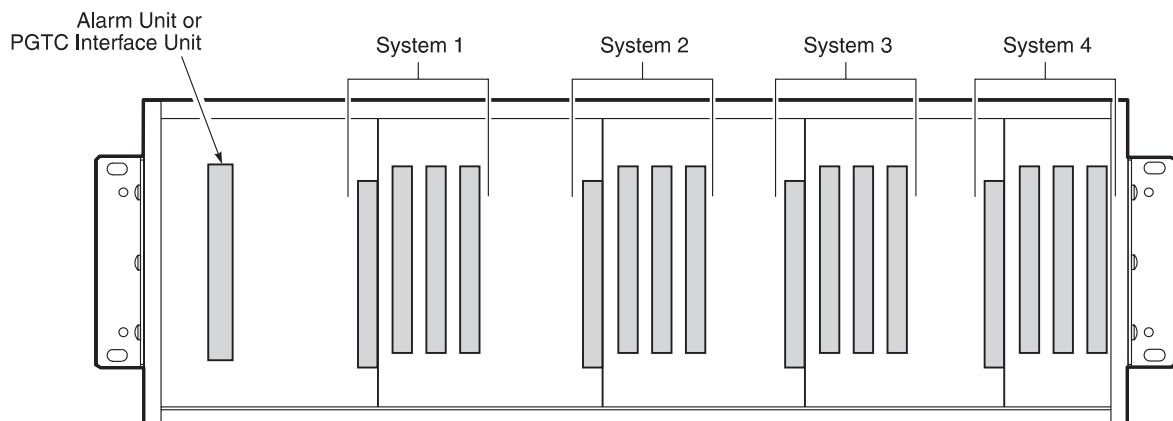

Figure 1. FCS-719 COT Shelf
1.1 The PairGain® PG-Flex™ FCS-719 List 4 23-inch Central Office Terminal (COT) Shelf (Figure 1) supports:
4.2 Table 3 lists the FCS-719 connectors (Figure 1) and where each is described in this practice.